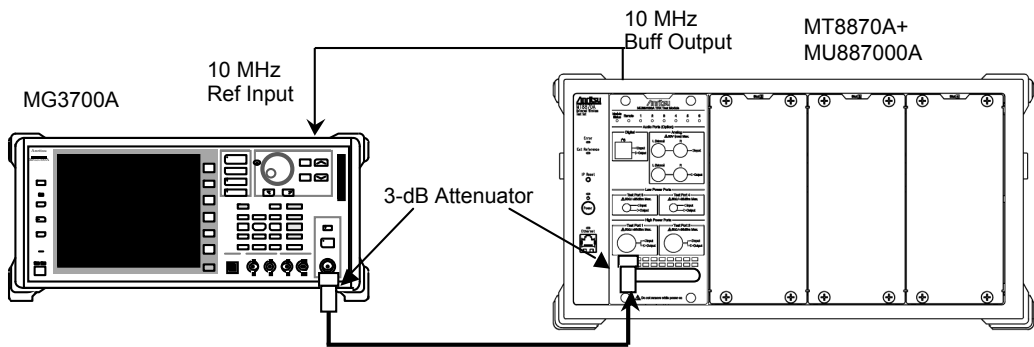

Figure 6.3.9-1 Setup for Measuring Frequency/Modulation measurement
1. Setup the instruments as shown in Figure 6.3.9-1.